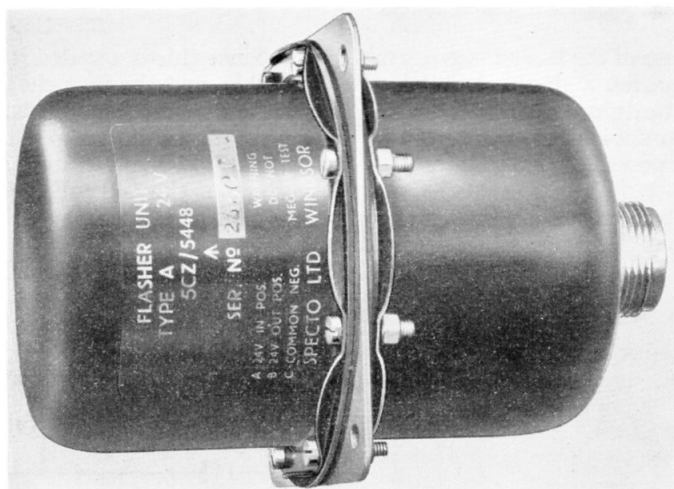

Fig. 1. Flasher unit, Type A
1. The flasher unit, Type A (*fig. 1*) is used to make and break the circuit to aircraft wing tip and tail navigation lights at a